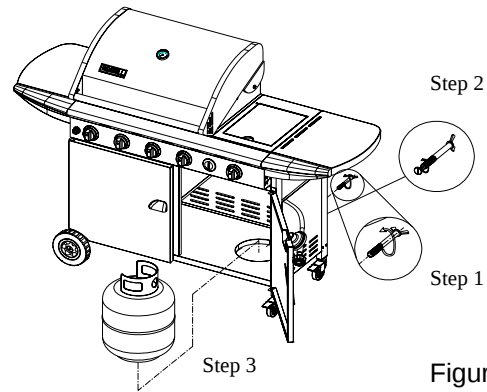

Figure 19
2. Place warming rack into the holes of the upper left and upper right of grill bowl side panels. (Fig.19)
1. From Rear of the cart, place foot ring of 20 lb tank into the hole in bottom shelf. Make sure the tank valve is in OFF position. (Fig.19)